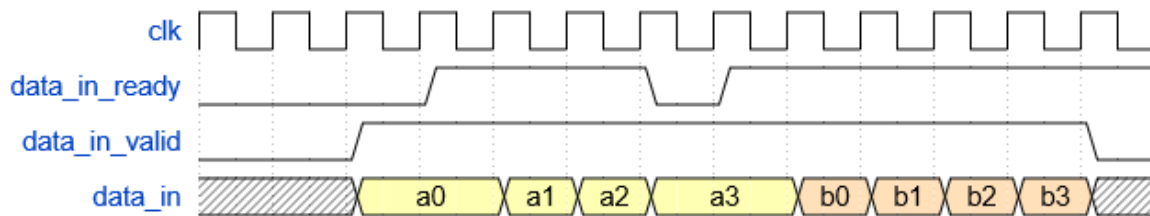
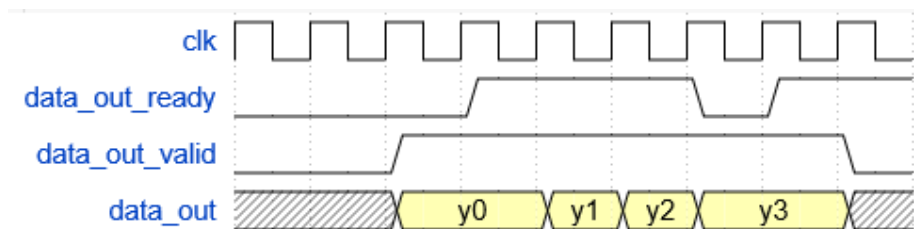

Figure 1. Input interface.
Figure 2. Output interface.
- If data_in/out_valid is high and the corresponding ready signal is low in a particular clock cycle, then data_in/out_valid must be high also in the following clock cycle and the data_in/out signal must retain its previous value. This situation is illustrated for the data transfer of a_3 and y_3 in Figure 1 and Figure 2.